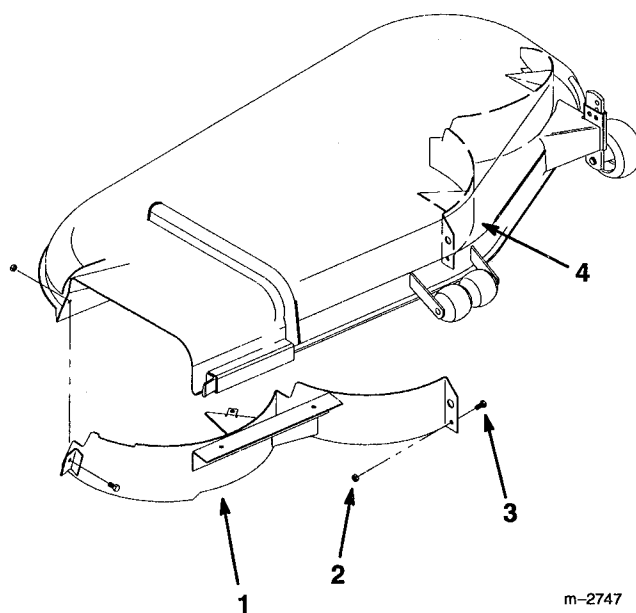

Figure 28
2. Remove the hex head screws and locknuts holding the right side baffle to the left side baffle and deck (Fig. 28).
3. Lower the right side baffle and slide it out of the discharge opening to remove it from the deck (Fig. 28).